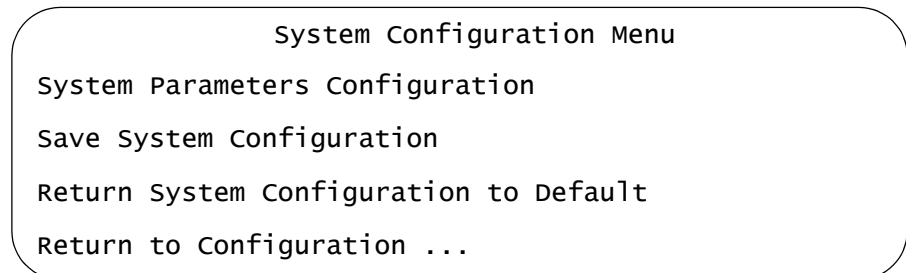

Figure 27. System Configuration Menu
2. From the Configuration Menu, select **System Configuration** to display the menu in Figure 27.
2. From the Configuration Menu, select **System Configuration** to display the menu in Figure 27 on page 100.